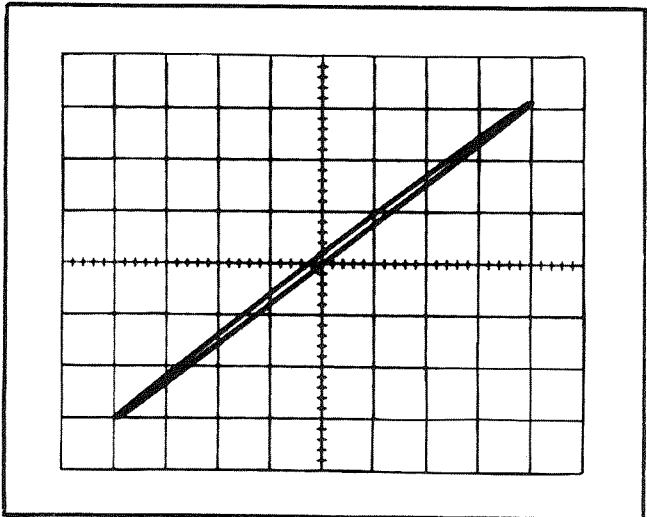
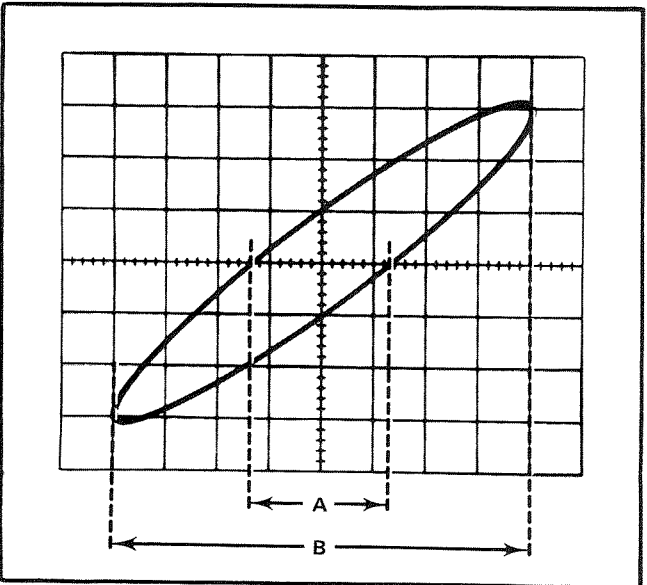

Fig. 2-16. X-Y display showing phase shift.
Fig. 2-17. Phase-difference measurement from an X-Y display.
3. Connect the same signal to both EXT VOLTS IN connectors. Use the Amplifier VARIABLE controls to obtain a display less than 8 divisions vertically and less than 10 divisions horizontally. Measure and record the inherent phase shift for the oscilloscope system being used. See Fig. 2-16.
5. Center the display in relation to the vertical graticule line. Measure the distances A and B as shown in Fig. 2-17. Distance A is the horizontal measurement between the two points where the trace crosses the center horizontal reference line. Distance B is the horizontal width of the display.
**Example.** The phase angle shown in Fig. 2-16 is approximately  $2^\circ$  and in Fig. 2-17 the phase angle is  $18^\circ$ .